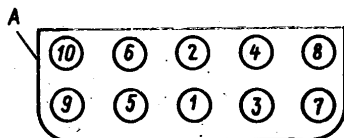

Fig. 27. Sequence of Tightening Cylinder Head Nuts:
1. Tighten up the cylinder head attachment nuts after the completion of the running-in period, and every 1000 km of run after each cylinder head removal. Tighten the nuts only on a cold engine in two steps, proceeding in the sequence indicated in Fig. 27.